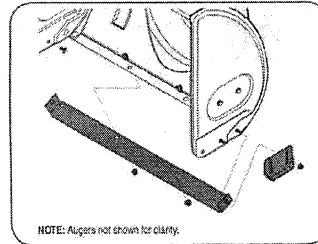

Figure 13
1. Remove the four carriage bolts and hex flange nuts which secure them to the snow thrower. See Figure 13.
2. Reassemble new skid shoes with the four carriage bolts (two on each side) and hex flange nuts. See Figure 13.